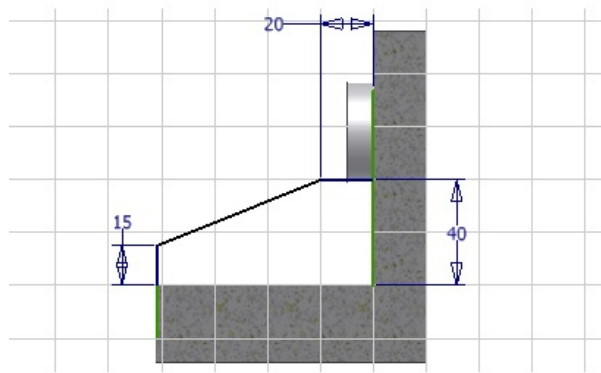

Figure 6-113 Sketch for the rib feature
3. Draw an open sketch for the rib feature and then add the required constraints and dimensions to it, as shown in Figure 6-113.